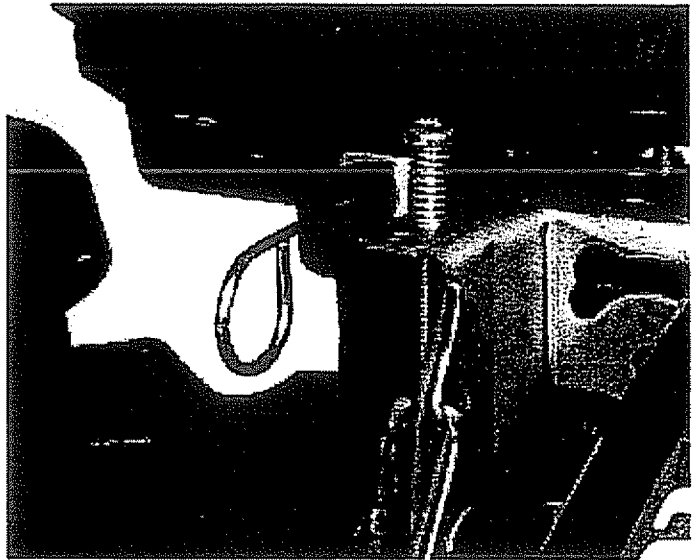

Figure-6
- Pull engine CHOKE LEVER (Figure-6) to "**Full Choke Position**".